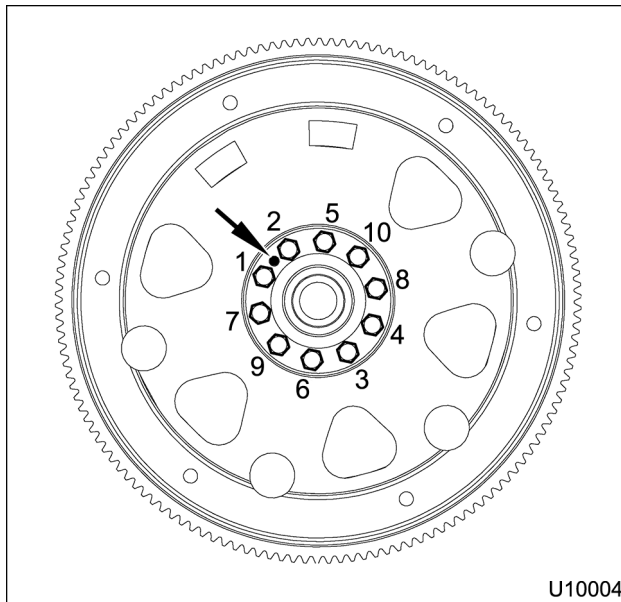

Figure 513 Torque sequence for flex plate flywheel assembly bolts and dowel location
4. Snug all bolts in sequence shown (Figure 513) to initial torque of 4 N·m (35 lbf·in).
5. Tighten all bolts in sequence shown (Figure 513) to final torque of 94 N·m (69 lbf·ft).